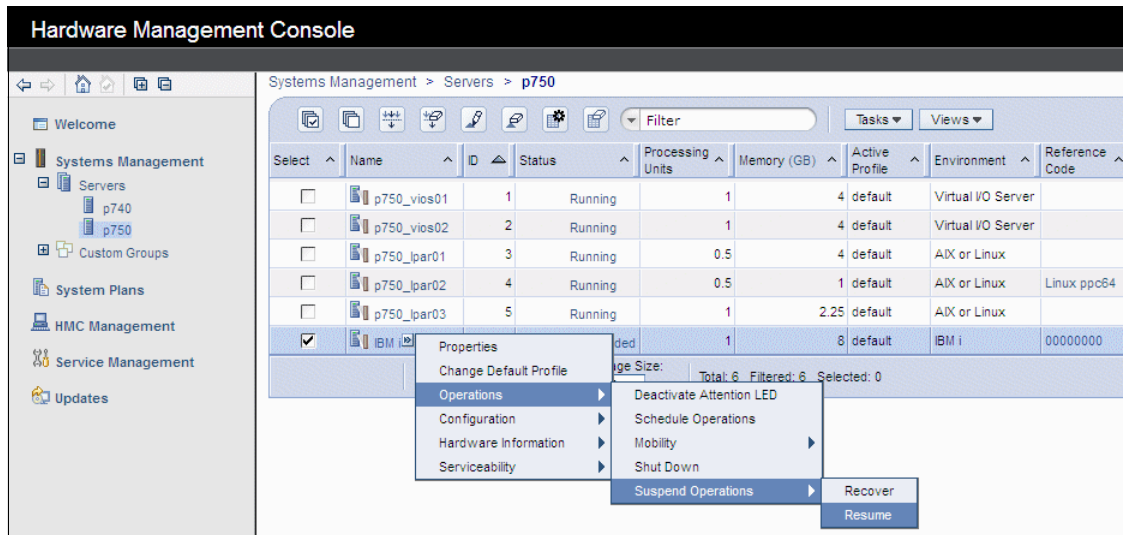

Figure 13-16 Selecting the Resume operation
2. Click **Operation** → **Suspend Operations** → **Resume** as shown Figure 13-16.